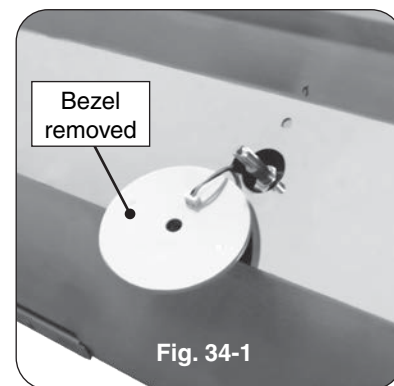

Fig. 34-1
4. Slowly lift away the lighted bezels to clear the valve stems, and let rest as shown in Fig. 34-1.